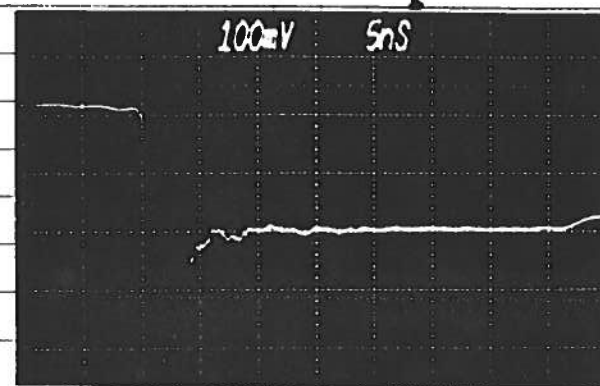

Fig 3A
- 10) Set scope time base on 5 or 1 ns/div to obtain display shown in Fig. 3A and/or Fig. 3B (adjust DELAY to center on CRT). Note that the leading spike (and ripple) on the I_R waveform are primarily due to the extremely short rise time of OUT 1 and the parasitic reaction of the test jig. These effects can only be reduced by using a longer rise time.
- 13) For additional assistance, call (613) 226-5772.